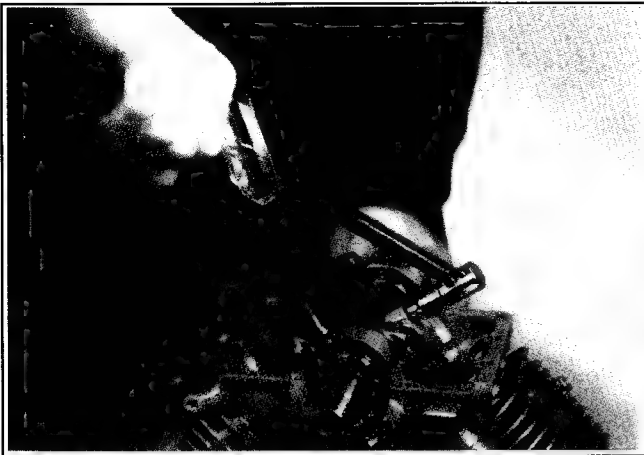

Figure 11-4. Torquing Connecting Rod Bolts.
4. Install connecting rod bolts and torque in increments to final torque of **11.3 N·m (100 in. lbs.)**. See Figure 11-4.